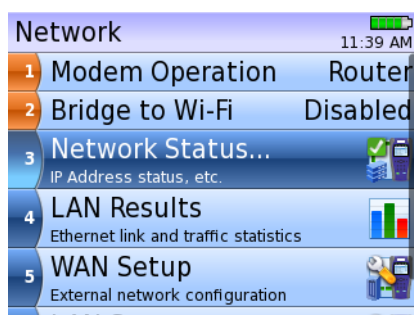

Figure 6 SmartClass Triple Play Services Menu screen (example)
- List - the selections appear in a list, as seen on the Network menu (Figure 6) or DSL Results (Figure 7).
Figure 6 illustrates a typical Menu screen.
The ellipses (...) character appears at the end of a highlighted menu item to indicate that this item will take you to another screen (such as “Network Status...” in Figure 6 on page 14).